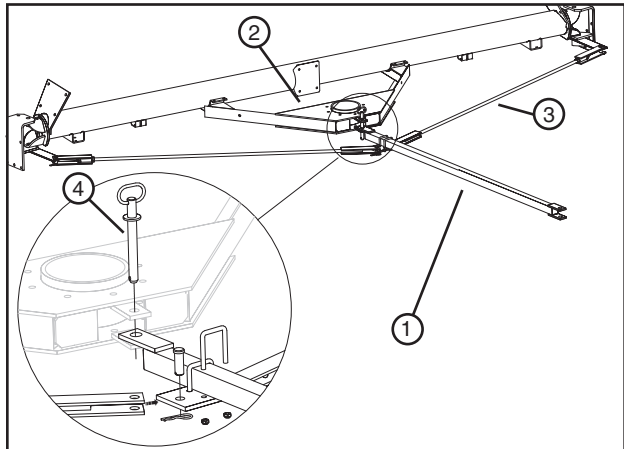

Figure 84-1 1. Tongue 2. Hose Pull frame 3. Tie Rod 4. Torque Pin
1. Attach tongue with tie rods to the hose pull frame with torque pin. See figure 84-1.